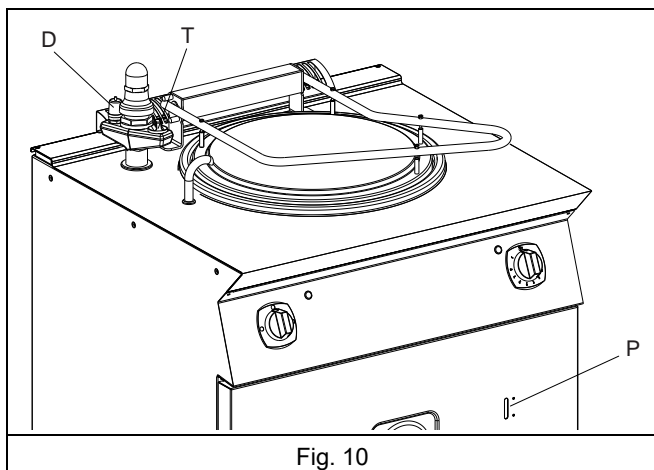

Fig. 10
See Fig. 10.
- Indirect version:** each time the appliance is switched on, after 10-15 minutes discharge the air from the cavity by pressing vent valve "D" (see Fig. 10). This guarantees an optimum pressure inside the cavity (better cooking and energy-saving), releasing the air inside.
- Empty and clean the pan by opening the drain valve "B" (see Fig. 10).